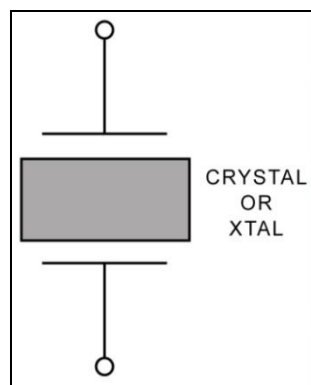

Fig. 3.4-28 Schematic Symbol for a Crystal
A crystal is usually mounted between two metal plates and a spring applies mechanical pressure to the plates. The metal plates secure the crystal and also provide the electrical contact. The crystal is then placed in a metal casing or holder. The schematic symbol for a crystal is derived from the way it is mounted and represents the crystal slab held between two plates, as shown in Fig. 3.4-28. The word crystal is often abbreviated "XTAL" or "Y" on schematics.
The crystal alone looks electrically like a series-resonant circuit, as shown in Fig. 3.4-28. In the series equivalent circuit, inductance (L) represents the crystal's mass that effectively causes vibration; (C) represents crystal stiffness, which is the equivalent of capacitance; R is the electrical equivalent of internal resistance caused by friction.